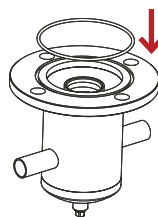

Figure 3.
3. Ensure the housing O-ring is seated properly on the cartridge O-ring grooves, Figure 3.